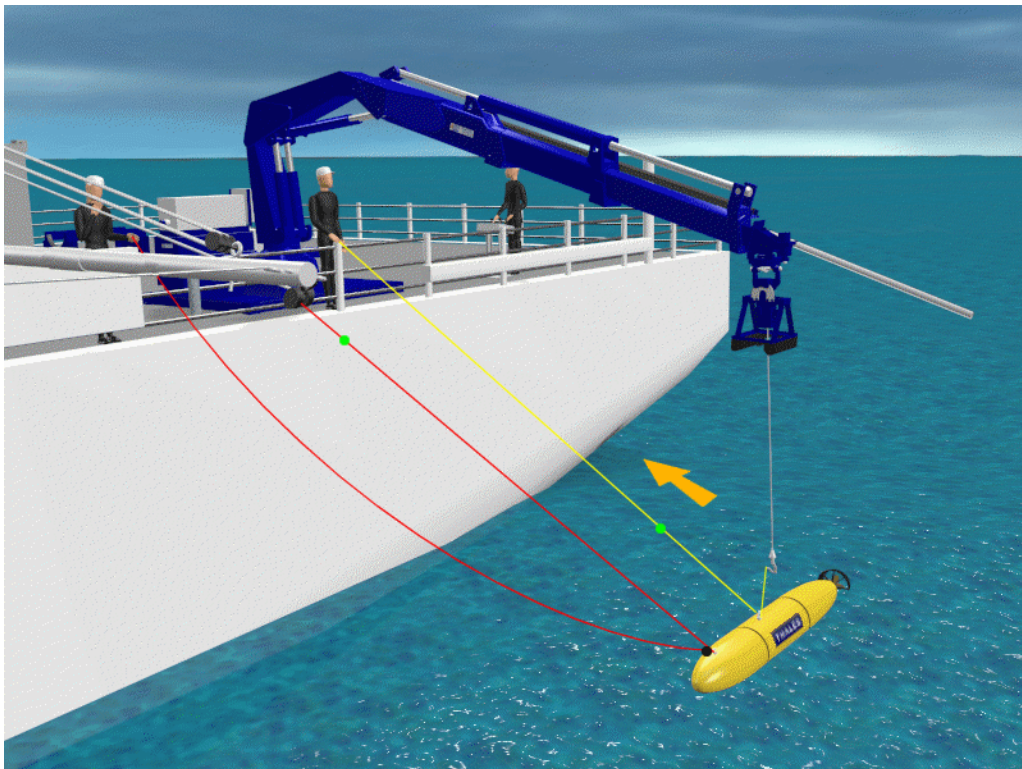

Figure 4-15
17. With the capture mechanism still outboard of the AUV, lower the crane hook, taking up the slack in the guide line (Figure 4-15). Allow the hook to be lowered slightly below the AUV hook. Then enable CT but leave the winch in minimum CT.